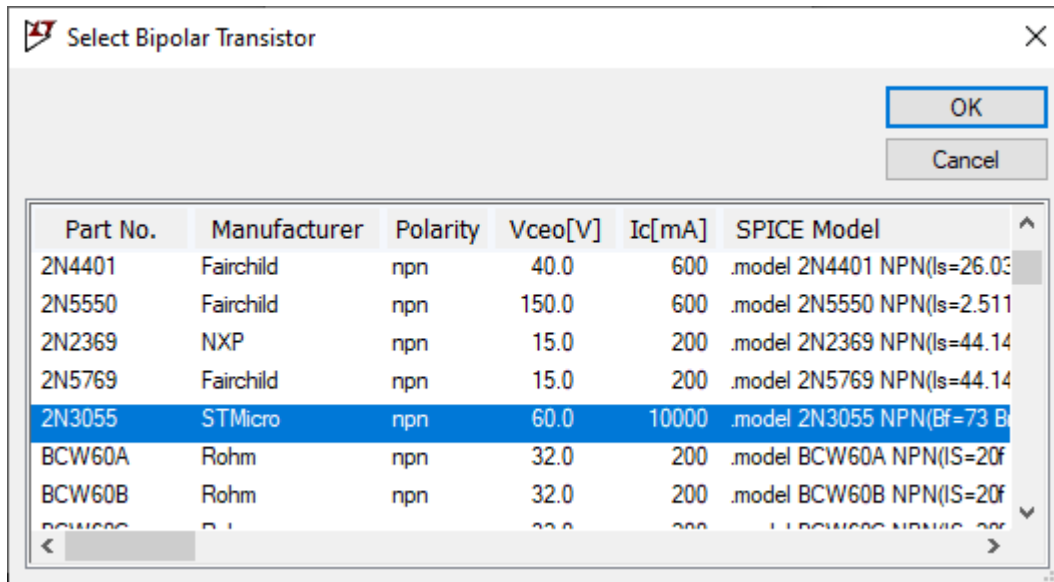

Fig. 2. Picking the power transistor model
2. Right click on the transistor, choose (2N3055) model as shown in Fig. 2: